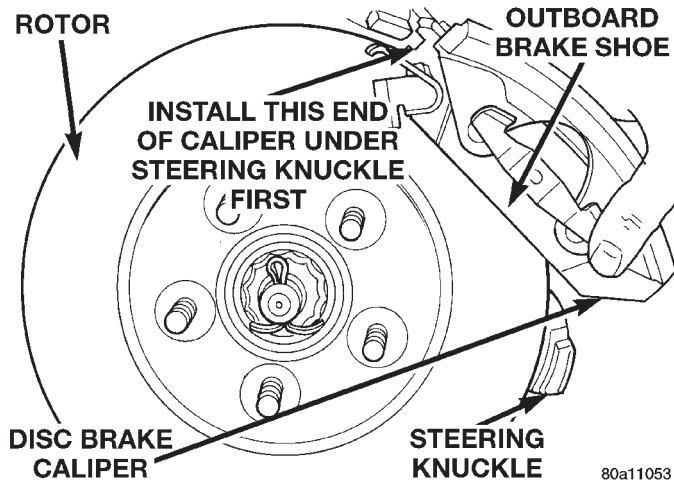

Fig. 84 Installing Brake Caliper
(4) Install disc brake caliper assembly on steering knuckle. Caliper is installed by first sliding top of caliper under top abutment on steering knuckle. Then installing bottom of caliper against bottom abutment of steering knuckle (Fig. 84).